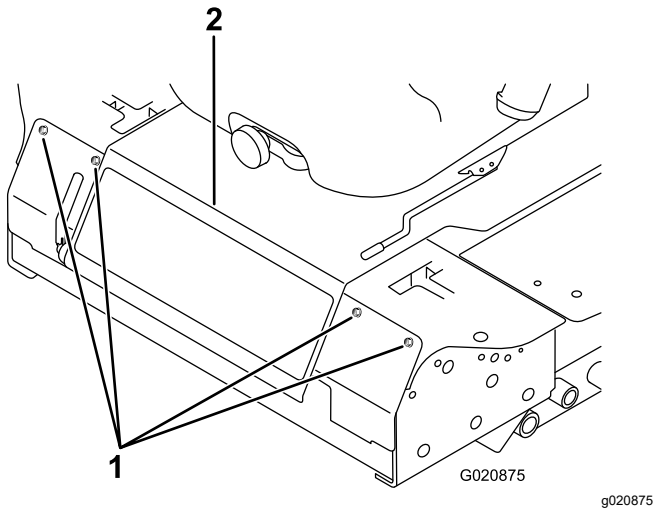

Figure 81
2. Remove the bolts securing the front panel and remove the panel (Figure 81).